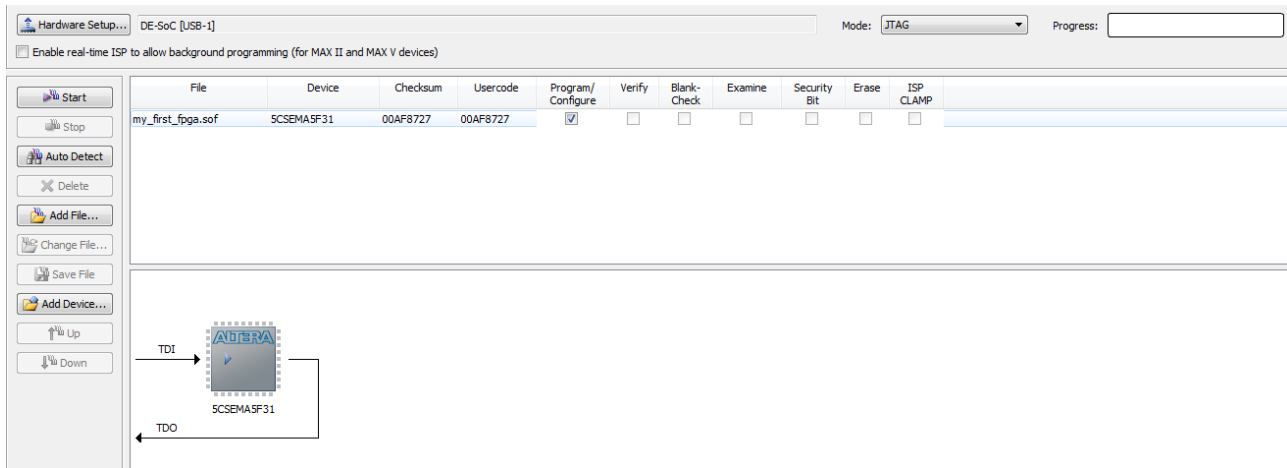

Figure 4-3 Programmer Window
- Choose Tools > Programmer. The Programmer window opens. See **Figure 4-3**.